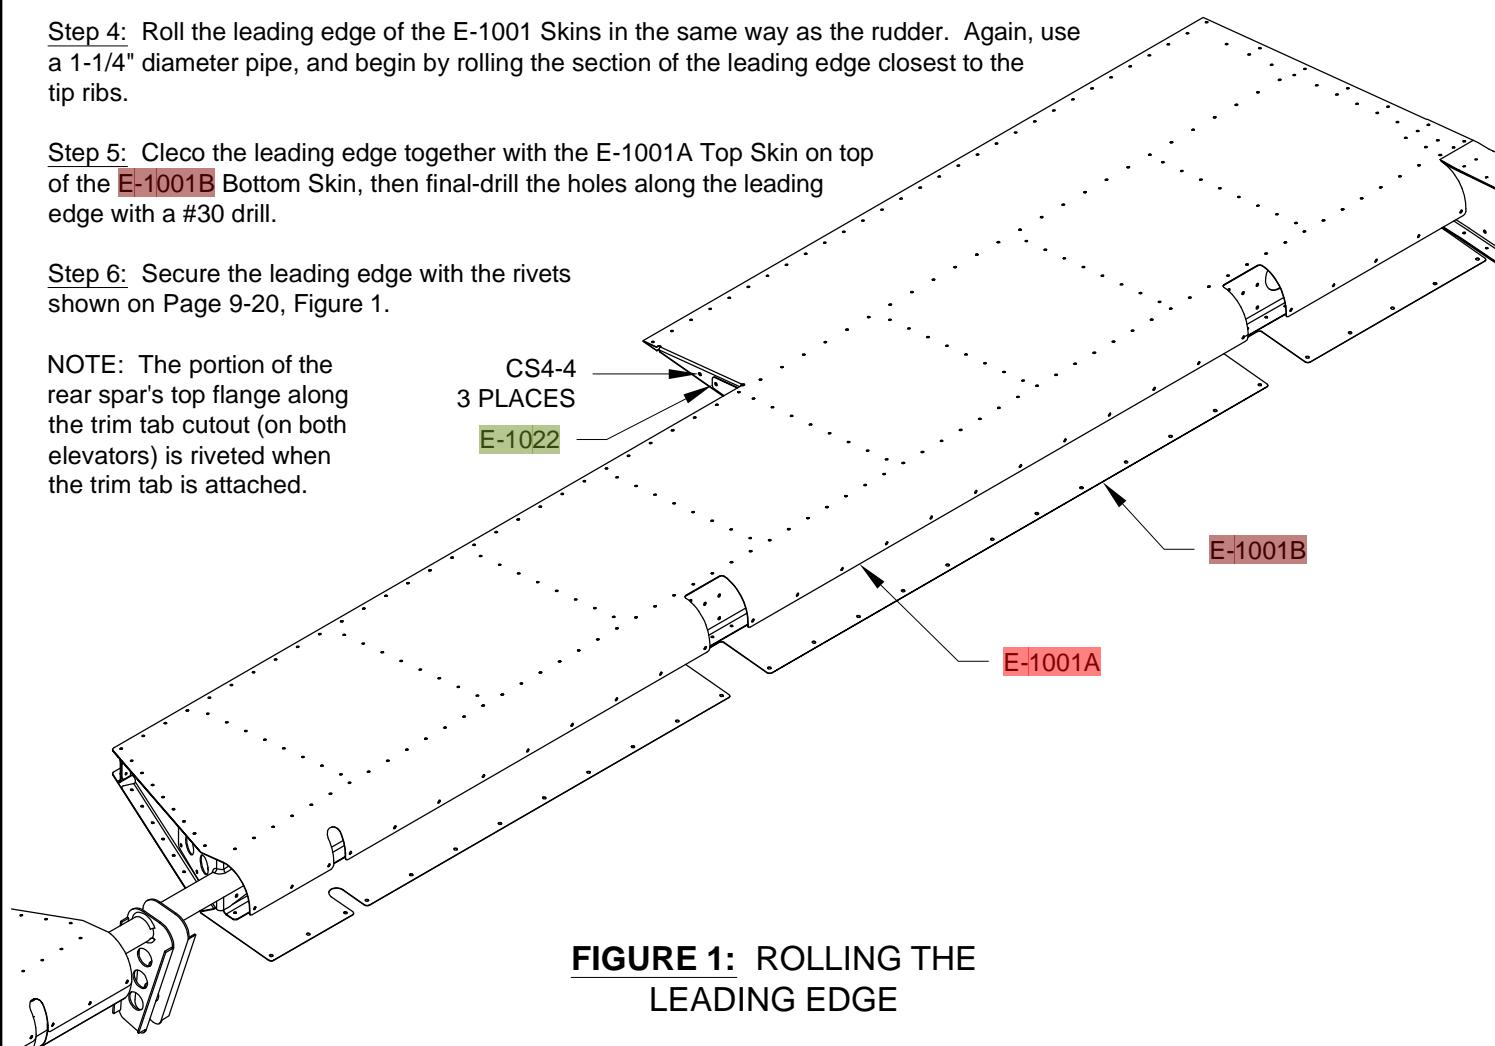

FIGURE 1: ROLLING THE LEADING EDGE
Step 2: Rivet the E-1022 Shear Clip to the close out tabs in the E-1001 Skins using the rivets shown in Figure 1. Install a blind rivet in the remaining hole in the close out tabs aft of the shear clip.
Step 6: Secure the leading edge with the rivets shown on Page 9-20, Figure 1.